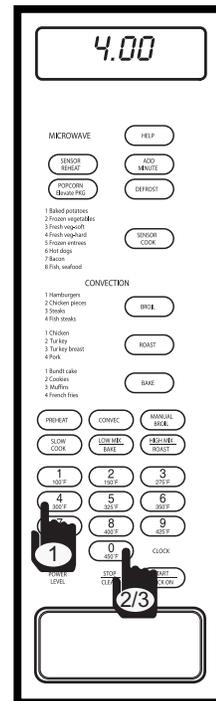

Figure 3-28.
1. Enter desired cooking time duration. For example: 4 minutes; press the number 4 key, and number 0 key twice (See Figure 3-28), and the display will flash "4.00 - PRESS - START - OR - PRESS - POWER - LEVEL".